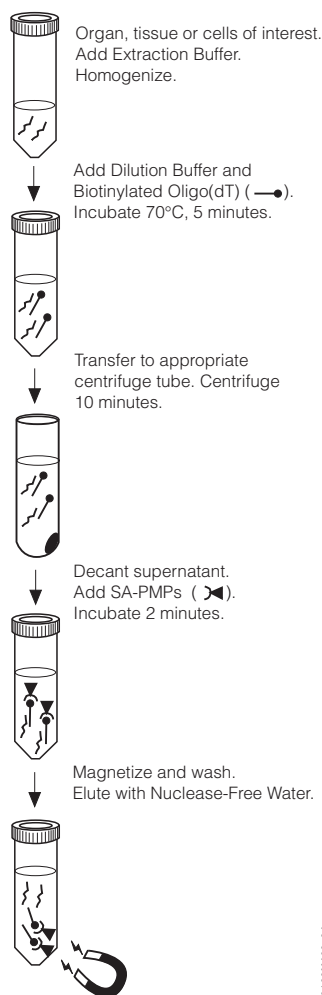

Figure 1. Schematic diagram of the PolyATtract® System 1000 Protocol.
The PolyAtract® System 1000 forgoes lengthy ethanol precipitation steps, phenol:chloroform extractions, overnight ultracentrifugation through cesium chloride gradients and lithium chloride (LiCl) precipitations (Figure 1). Increased mRNA yields are obtained because losses that occur during the organic extractions and precipitations are eliminated. The isolated mRNA is suitable for all molecular biology applications, including in vitro translation,
The PolyATtract® System 1000 combines the disruptive and protective properties of guanidine thiocyanate and β-mercaptoethanol to inactivate ribonucleases present in cell extracts (1). Guanidine thiocyanate (GTC), in association with SDS, acts to disrupt nucleoprotein complexes, allowing RNA to be released into solution and isolated free of protein. The final GTC concentration allows hybridization of the poly(A) sequence of most mature eukaryotic mRNA species to the synthetic Biotinylated Oligo(dT) Probe, yet maintains complete inhibition of cellular RNases. Hybridization occurs during the brief centrifugation step that removes cellular debris and precipitated proteins. After centrifugation, the Biotinylated Oligo(dT):mRNA hybrids are captured with Streptavidin MagneSphere® Paramagnetic Particles (SA-PMPs). The particles are washed at high stringency, and purified mRNA is eluted by the simple addition of Nuclease-Free Water (Cat.# P1193). This procedure yields an essentially pure fraction of mature mRNA after only a single round of magnetic separation, without organic extractions or precipitations. A summary of the procedure is provided in Figure 1.